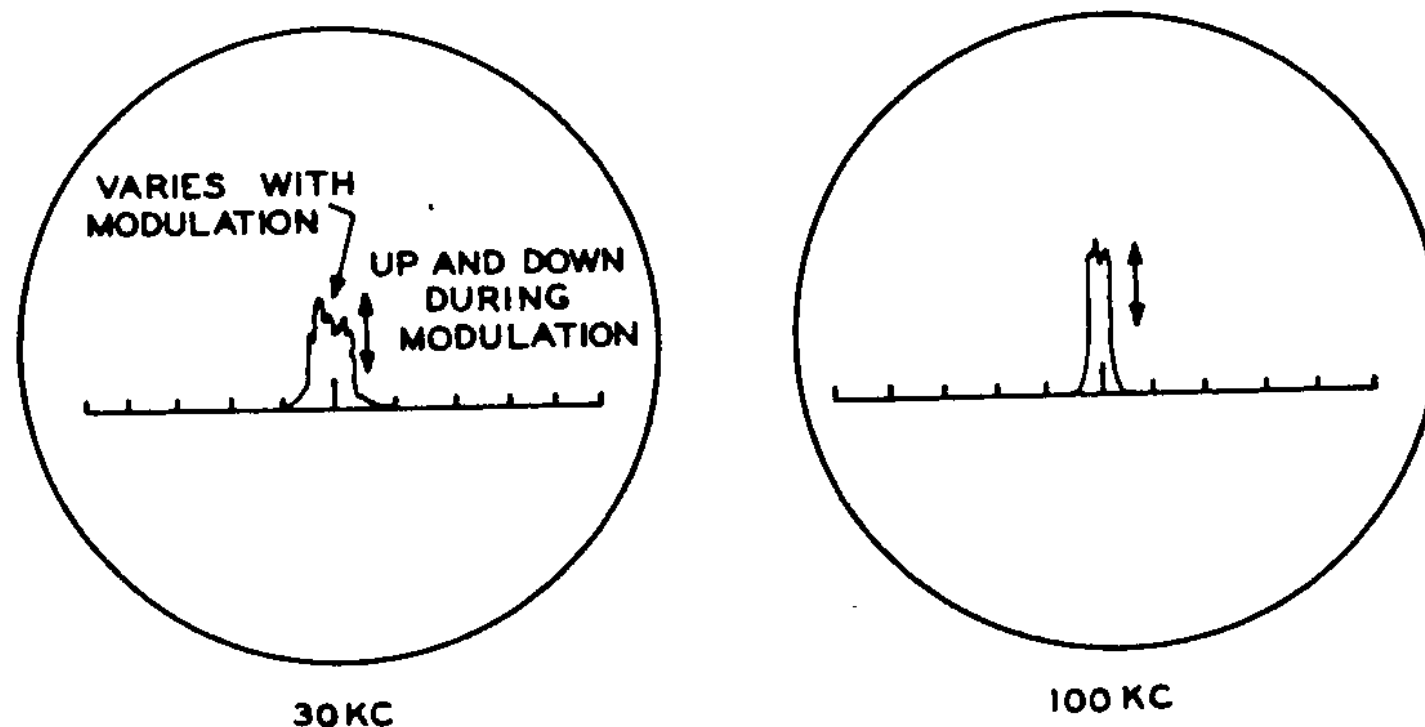

Figure 6
If proper adjustments have been made as outlined in the Pip Adjustment section, the signal being heard from the receiver will appear at the center of the screen base line. CW, AM, RTTY, SSB, and electrical interference signals may be identified as shown in Figures 6 through 14. The width of the signal pip will depend on the setting of the Sweep Width control.
**Figure 6 - Normal SSB:** Since an SSB signal is only present during modulation, the pip will appear only when there is modulation present. The pip outline will also have peaks and valleys corresponding to the many voice frequencies.